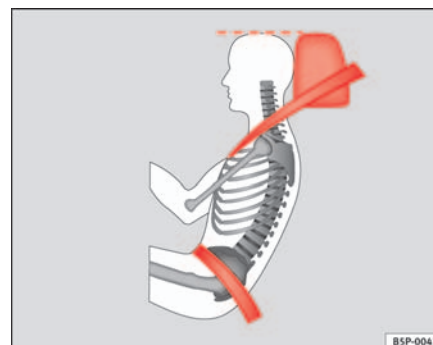

Fig. 14 Correct belt web and head rest positions, viewed from side
- The lap part of the seat belt must lie across the pelvis, never across the stomach. The seat belt must lie flat and snugly on the pelvis ⇒ page 25, fig. 14. Pull the belt tight, if necessary to take up any slack.